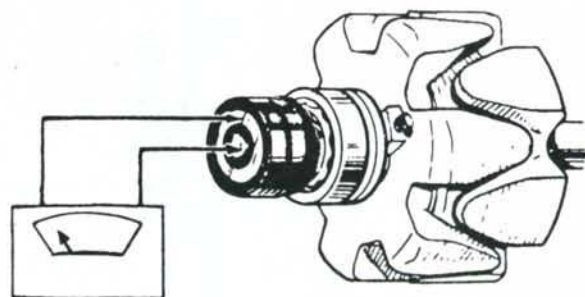
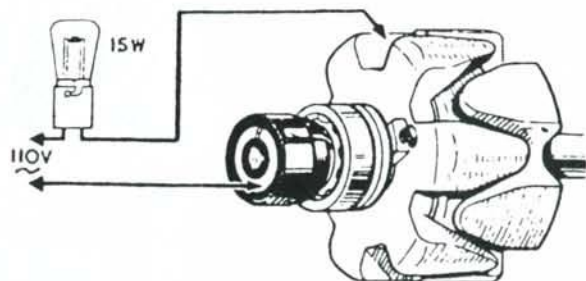

Fig. 65—Use an ohmmeter between slip ring connectors to check continuity of rotor windings on Model A115-45 alternator.
Fig. 66—To check insulation of rotor windings, connect a 15 watt light bulb in a 110 volt circuit connected to outer slip ring and any rotor pole.
80. TESTING. To test the rotor windings, connect an ohmmeter between slip ring connectors as shown in Fig. 65. Ohmmeter should read 3.2 ohms. If not, renew rotor. To check insulation of rotor windings, connect a 15 watt test light in a 110 volt circuit connected to outer slip ring and any rotor pole as shown in Fig. 66. If light comes on, renew rotor.